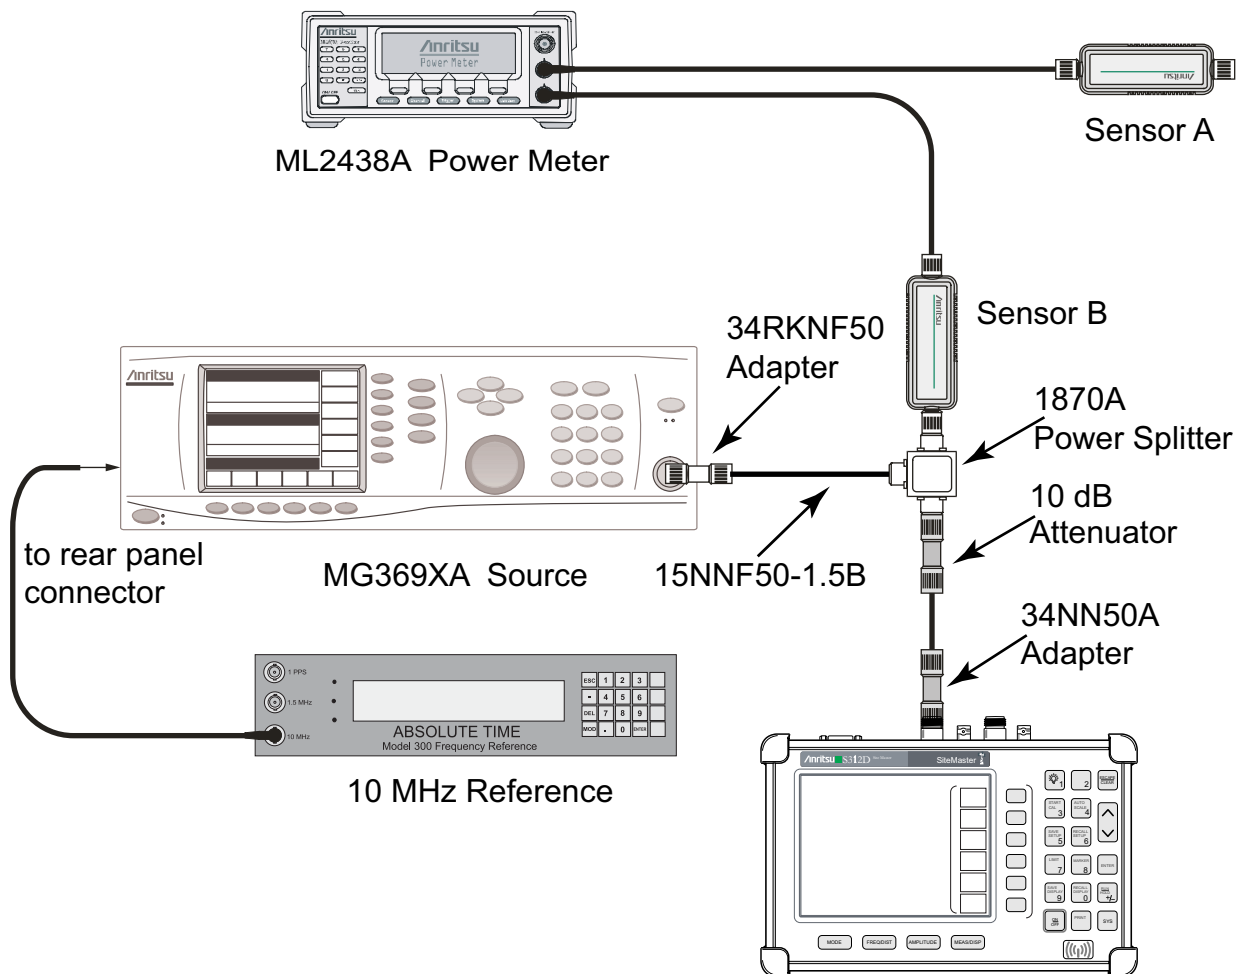

Figure 2-7. Spectrum Analyzer Level Accuracy Verification Test Setup
17. Using the power splitter, coaxial cable, adapters, and fixed attenuator, connect the Site Master to the signal source and to the power Sensor as shown in Figure 2-7.
3. Using the power splitter, coaxial cable, adapters and fixed attenuator, connect the Site Master to the signal source and the power sensor as shown in Figure 2-7.